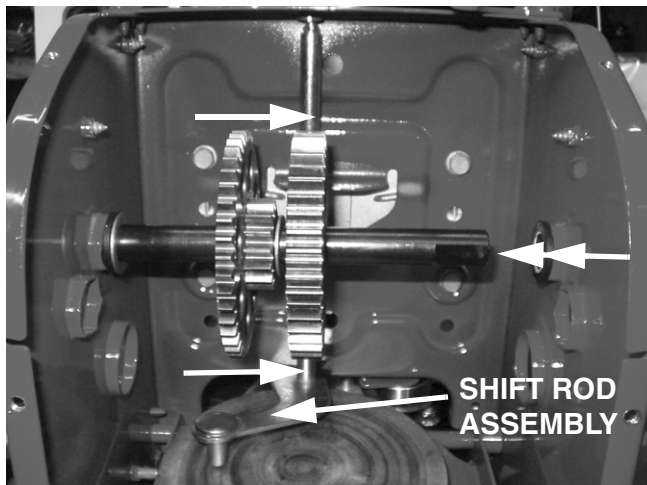

FIGURE 11
18. Slide/drive the axle to the left to remove from the frame. See Figure 11.